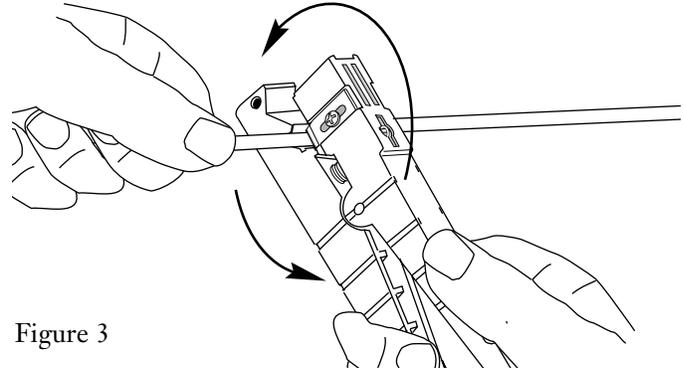

Figure 3
4.3 Place the Ideal tool over the mark made in step 4.1. Rotate the tool around the cable to *score* the jacket (Figure 3). **DO NOT** cut through the jacket, or the 900  $\mu\text{m}$  tight-buffered fibers might be damaged.